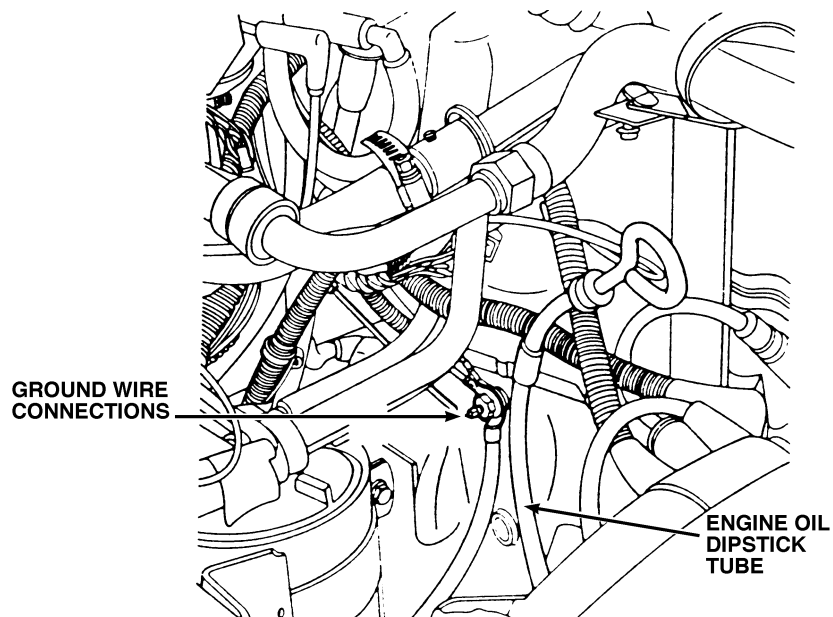

Figure 11.
27. Inspect the system ground wire connections at the engine oil dipstick tube mounting stud (Figure 11). Make sure the wires and stud are clean and tight.